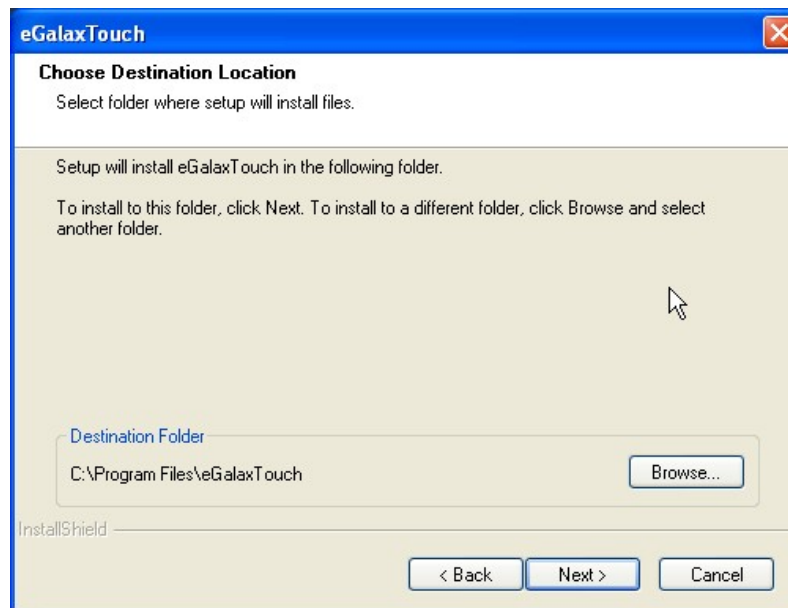

Figure 6-41: Choose Destination Location
Step 9: Select the destination folder where the setup files will be copied to (**Figure 6-41**).